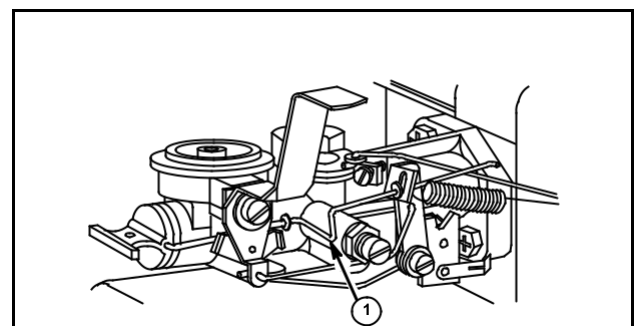

Fig. 18
Place lever in choke detent. If choke is not fully closed, bend link where shown (1) to attain full choke, Fig. 18.